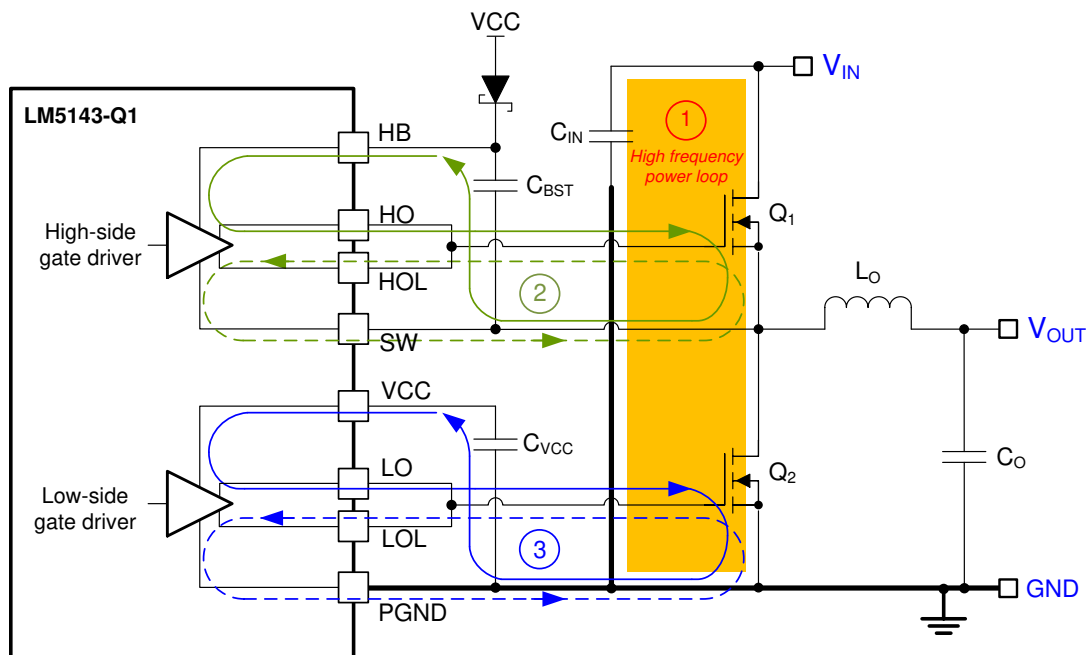

图 61. DC/DC Regulator Ground System With Power Stage and Gate Drive Circuit Switching Loops
- R_{ESR} is the input capacitor ESR. (42)
5. Use four 10-nF, 50-V, X7R, 0603 ceramic capacitors near each high-side MOSFET to supply the high di/dt current during MOSFET switching transitions. Such capacitors offer high self-resonant frequency (SRF) and low effective impedance above 100 MHz. The result is lower power loop parasitic inductance, thus minimizing switch-node voltage overshoot and ringing for lower EMI signature. Refer to 图 61 in the Layout Guidelines for more details.
Proper PCB design and layout is important in a high-current, fast-switching circuits (with high current and voltage slew rates) to achieve a robust and reliable design. As expected, certain issues must be considered before designing a PCB layout using the LM5143-Q1. The high-frequency power loop of a buck regulator power stage is denoted by loop 1 in the shaded area of 图 61. The topological architecture of a buck regulator means that particularly high di/dt current flows in the components of loop 1, and it becomes mandatory to reduce the parasitic inductance of this loop by minimizing its effective loop area. Also important are the gate drive loops of the low-side and high-side MOSFETs, denoted by 2 and 3, respectively, in 图 61.
- Loop 1: The most important loop area to minimize is the path from the input capacitor or capacitors through the high- and low-side MOSFETs, and back to the capacitor or capacitors through the ground connection. Connect the input capacitor or capacitors negative terminal close to the source of the low-side MOSFET (at ground). Similarly, connect the input capacitor or capacitors positive terminal close to the drain of the high-side MOSFET (at V_{IN}). Refer to loop 1 of 图 61.
- The SW pin connects to the switch node of the power conversion stage and acts as the return path for the high-side gate driver. The parasitic inductance inherent to loop 1 in 图 61 and the output capacitance (C_{OSS}) of both power MOSFETs form a resonant circuit that induces high frequency (greater than 50 MHz) ringing at the SW node. The voltage peak of this ringing, if not controlled, can be significantly higher than the input voltage. Make sure that the peak ringing amplitude does not exceed the absolute maximum rating limit for the SW pin. In many cases, a series resistor and capacitor snubber network connected from the SW node to GND damps the ringing and decreases the peak amplitude. Provide provisions for snubber network components in the PCB layout. If testing reveals that the ringing amplitude at the SW pin is excessive, then include snubber components as needed.
- Loop 2: high-side MOSFET, Q_1 . During the high-side MOSFET turnon, high current flows from the bootstrap (boot) capacitor through the gate driver and high-side MOSFET, and back to the negative terminal of the boot capacitor through the SW connection. Conversely, to turn off the high-side MOSFET, high current flows from the gate of the high-side MOSFET through the gate driver and SW, and back to the source of the high-side MOSFET through the SW trace. Refer to loop 2 of 图 61.
- Loop 3: low-side MOSFET, Q_2 . During the low-side MOSFET turnon, high current flows from the VCC decoupling capacitor through the gate driver and low-side MOSFET, and back to the negative terminal of the capacitor through ground. Conversely, to turn off the low-side MOSFET, high current flows from the gate of the low-side MOSFET through the gate driver and GND, and back to the source of the low-side MOSFET through ground. Refer to loop 3 of 图 61.